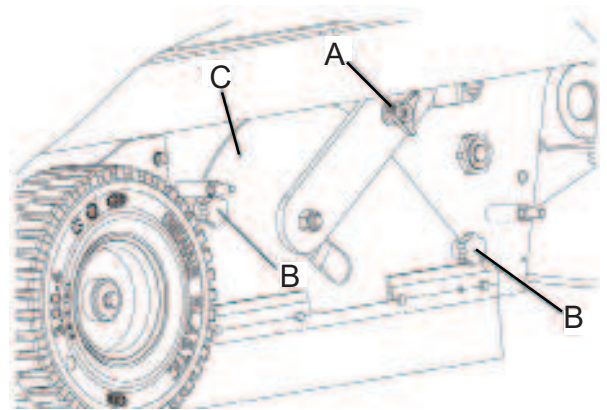

Figure3
- 1) Drive the machine on a level floor and release the pedal (2) and stop the machine.
- 3) Unscrew the knobs (34) and remove the right cover (33).
- 4) Loosen the knob (A, Fig. 3).
- 5) Unscrew the knobs (B, Fig. 3) and remove the brush compartment cover (C).
- 10) Install the broom compartment cover (C, Fig. 3) and tighten the knobs (B) and (A).
- 11) Install the right cover (33), then tighten the knobs (34).